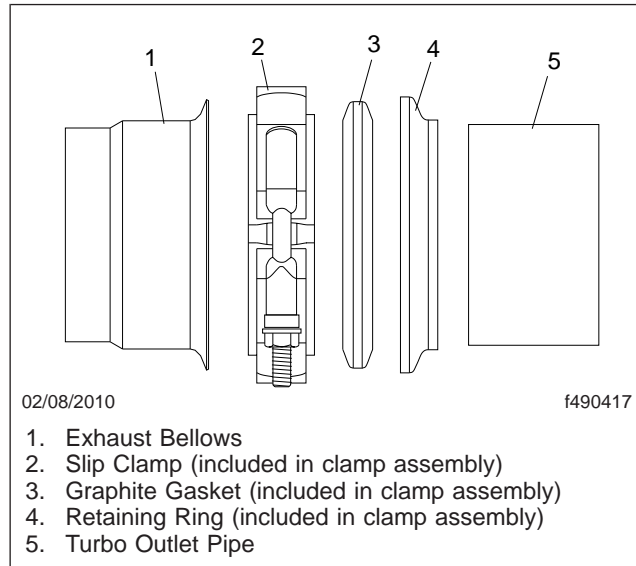

Fig. 7, Forward Facing Slip Clamp Installation
10. Install the slip clamp assembly with the retaining ring and graphite gasket, onto the turbo outlet pipe. See **Fig. 7** for proper installation.